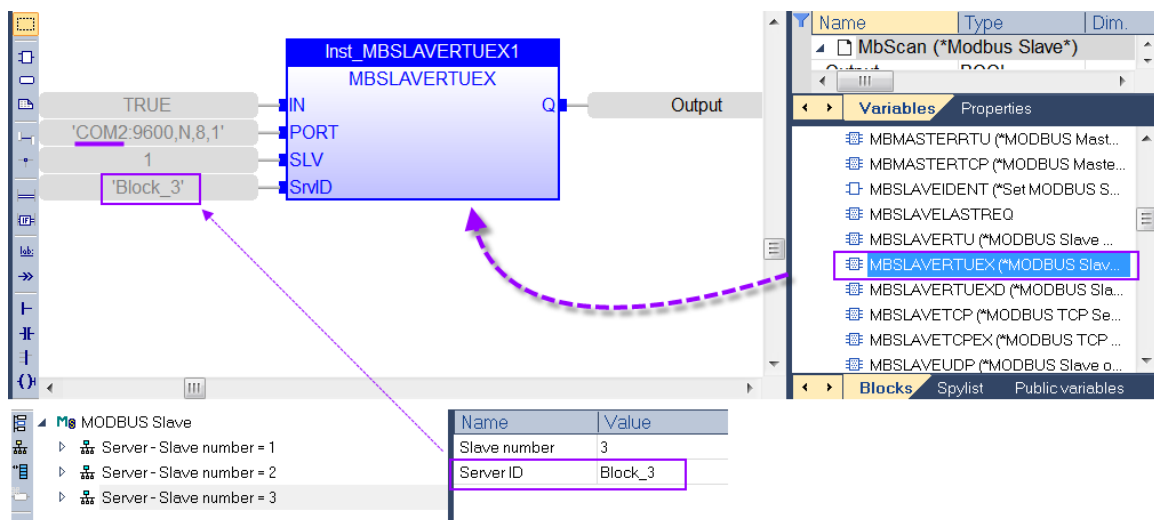

Figure 144: Set data block 3 as Modbus RTU slave
- Configure data block 3 as a Modbus RTU slave with slave number 1 and communication via COM2 port (Figure 144).